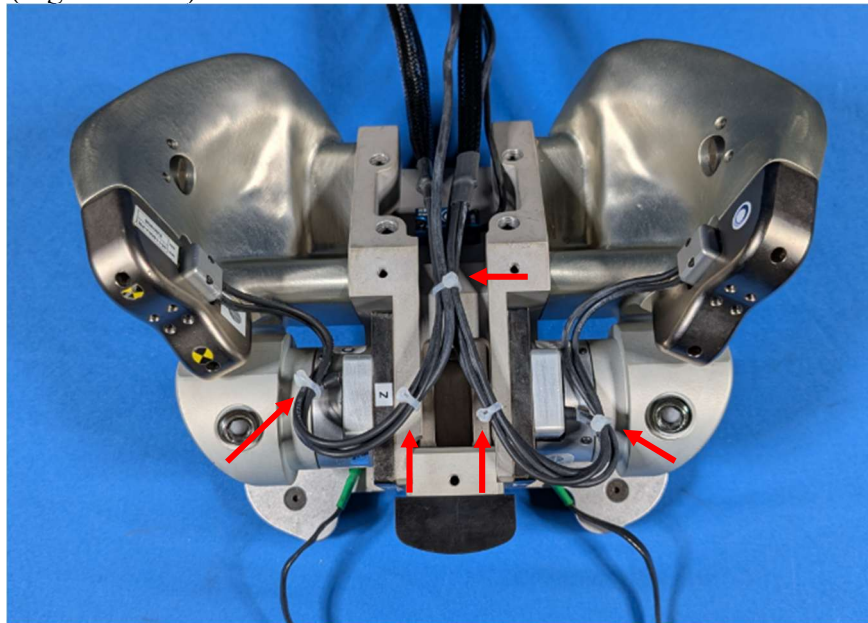

Figure 13-24. ASIS and acetabulum load-cell wires routed through the pelvic bone channel with tie wraps
13.4.3.2 Route the ASIS and acetabulum load cell wires up through the channel in the pelvic bone. Add tie wraps as required to secure the wires without pinching them (Figure 13-24).